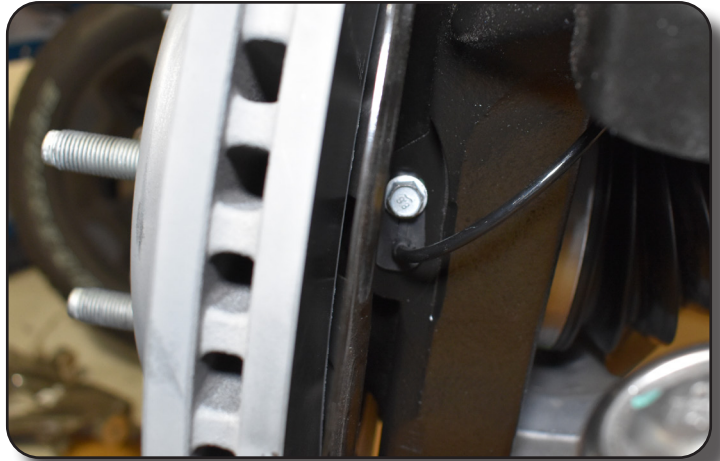

Figure 55
87. **Large bearing knuckle kits skip to next step.** Install ABS sensor into knuckle and apply thread locker to bolt. Torque OE bolt to 62 in-lbs. Fig. 55